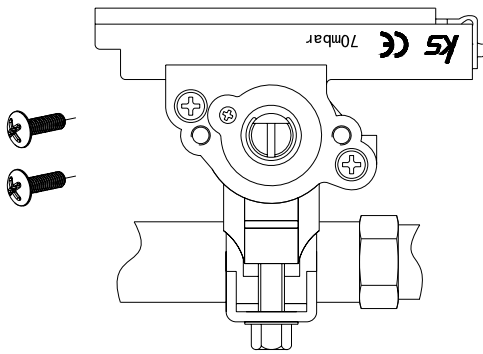

Fig 14a
1. Loose 2pcs of pre-assembled screws from the side burner valve bracket on HVR of Grill Assembly (A1) as fig 14a.